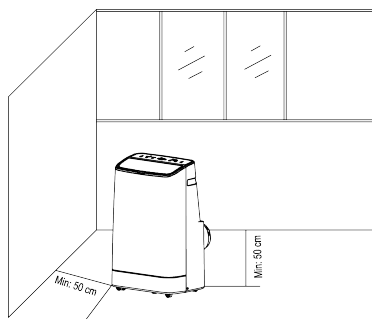

Figure 4
- Move the machine with installed heat pipe and fittings before the window, and the distance between the body and walls or other objects shall be at least 50 cm (as shown in Fig.4).